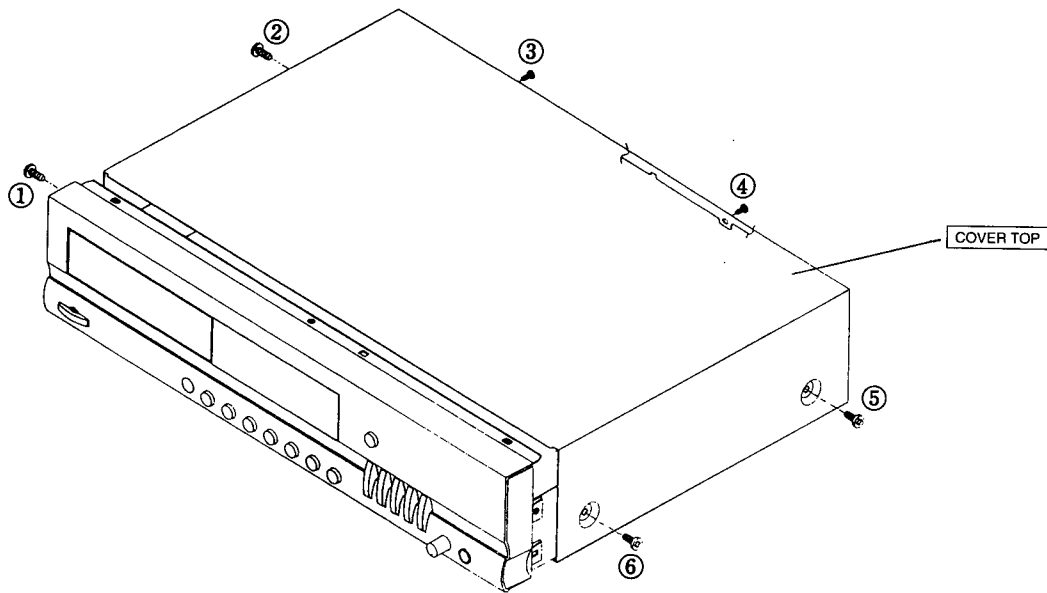

Fig. 3
- 1) Remove screws ① to ⑥ in Fig. 3, and then remove the cover by sliding it to its rear a little.